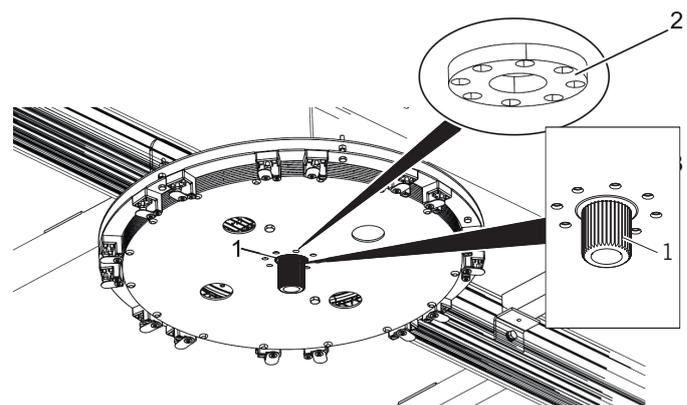
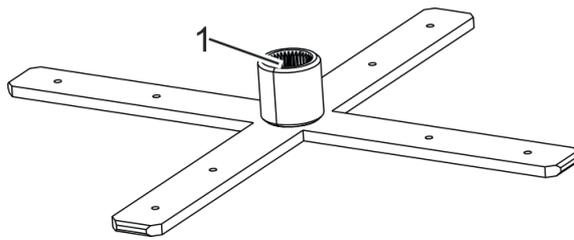

Fig. 82 Mounting washer
Fig. 83 Upper cross fitting (rigid turnstile)
1. Place the mounting washer provided (Fig. 82/2) over the screw heads in the holes on the underside of the operator (Fig. 82/1) in accordance with the following table.
2. **i** Position upper cross fitting (Fig. 83) with mounting (Fig. 83/1) upwards under the operator.
Suspend upper cross fitting (Fig. 83) with at least 2 lashing straps in the ceiling structure under the center of the operator (Fig. 82/1).
3. Degrease the face of the toothed shaft provided (Fig. 82/1) and attach Velcro strip.